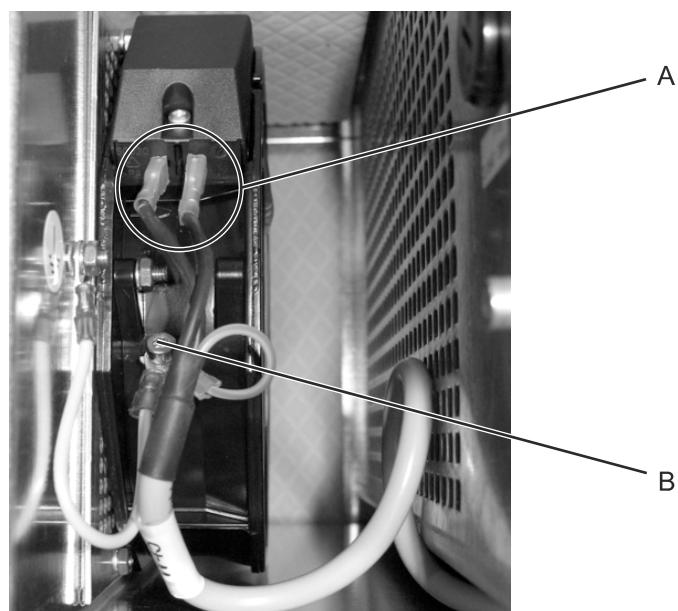

Figure 17: Disconnecting the EMI housing ventilator
16. Use the 7 mm wrench to remove the grounding cable from the EMI housing ventilator (see Figure 17, B).